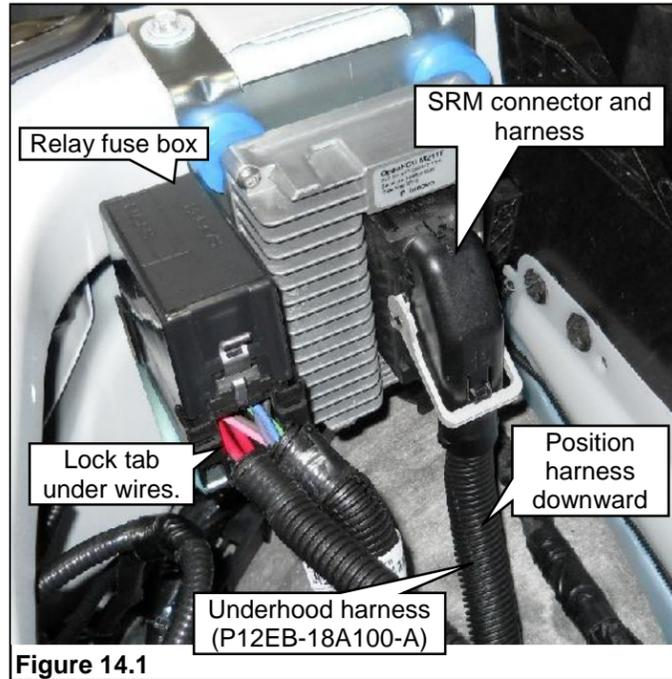

Figure 14.1
2. Attach the SRM connector to the SRM, push the connector into place until fully seated and close the connector latch securely. **Note:** The SRM connector must be oriented downward for proper harness installation. **Figure 14.1.**
3. Position the fuse box (part of harness) onto the bracket and slide it in until locked in place. Check to make sure that the fuse box tabs are fully seated and that the lock tab is latched. **Figure 14.1.**